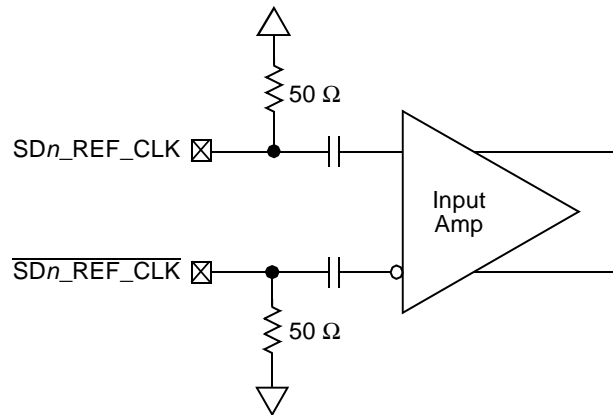

Figure 23. Receiver of SerDes Reference Clocks
Figure 23 shows a receiver reference diagram of the SerDes reference clocks.
- The `SD_REF_CLK` and `SD_REF_CLK` are internally AC-coupled differential inputs as shown in Figure 23. Each differential clock input (`SD_REF_CLK` or `SD_REF_CLK`) has a 50- Ω termination to $XCOREV_{SS}$ followed by on-chip AC coupling.